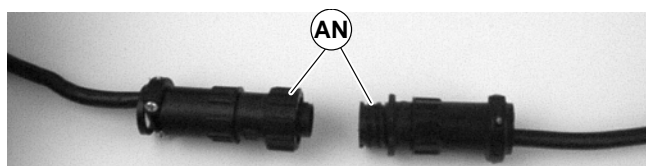

Figure 24
- For DC variable speed motor, unplug motor cord at disconnect (AN of Figure 24).